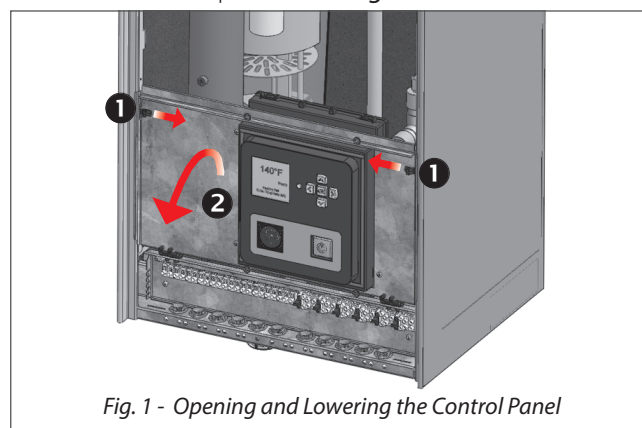

Fig. 1 - Opening and Lowering the Control Panel
6. Slide left and right tabs of control panel inward and lower control panel. See *Fig. 1*.